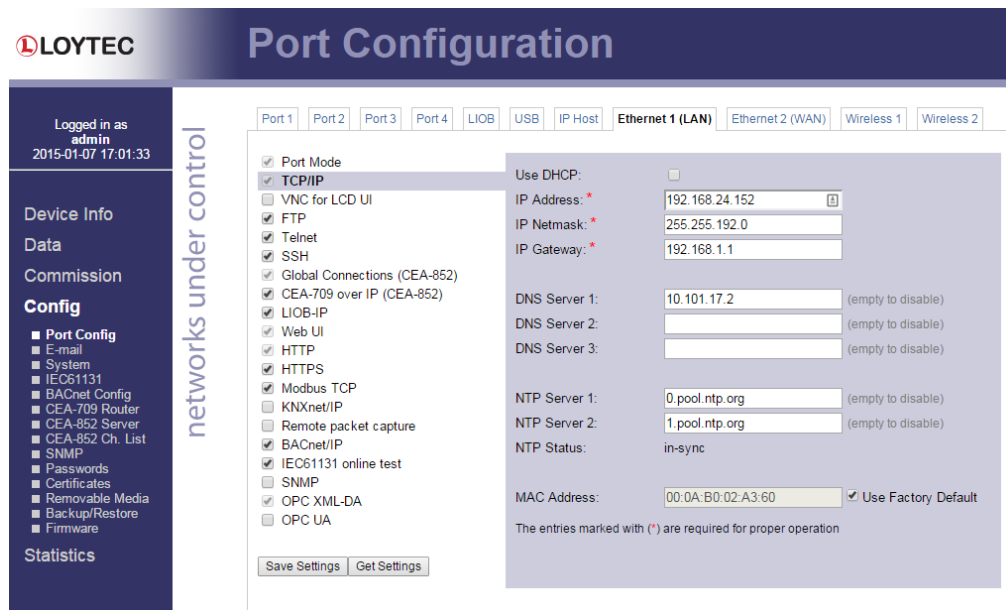

Figure 29: Enter IP address and gateway.
3. The Config menu opens. Click on **Port Config** and change to the tab **Ethernet**. The TCP/IP settings are selected as shown in Figure 29. Enter the IP address, the IP netmask, and IP gateway for this device.